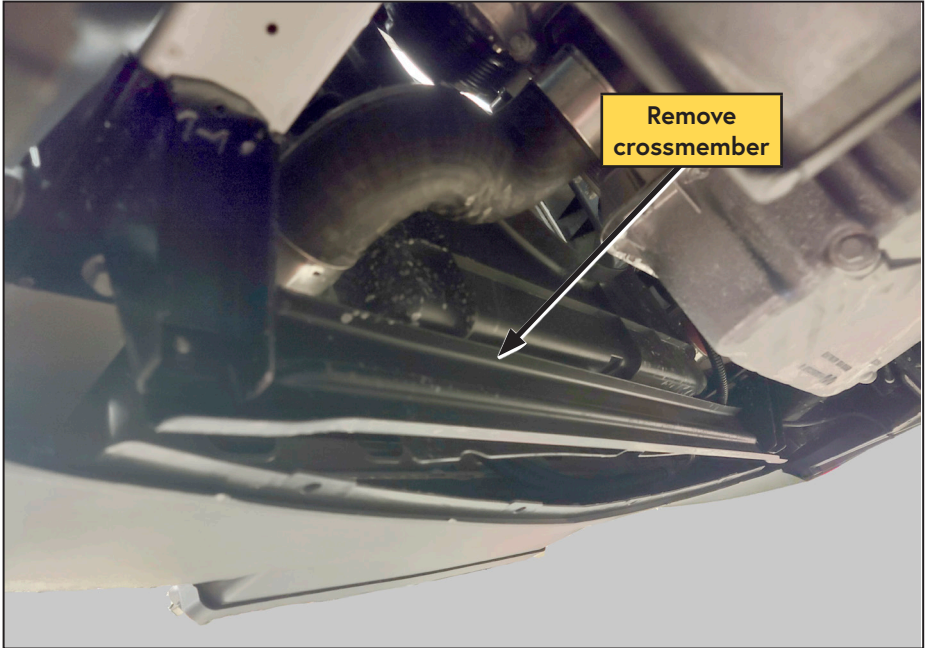

Figure 4 — Remove passenger side CAC hose
- Remove the crossmember located below the radiator (Figure 4).